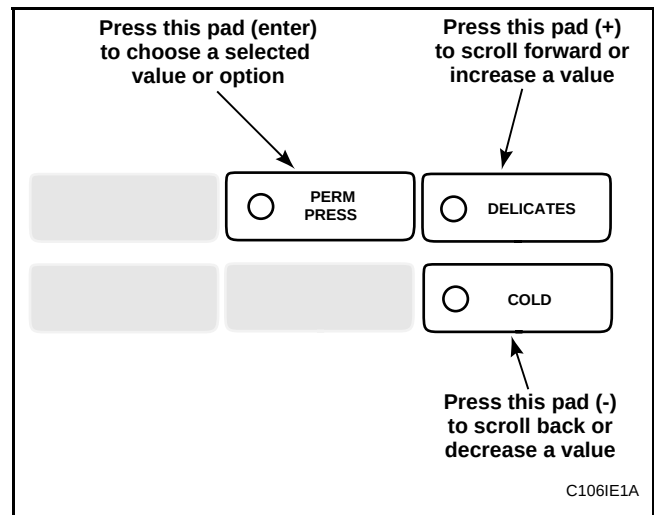

Figure 78
5. Press the DELICATES (+) or the COLD (-) keypad to increase or decrease the current three digit number to the desired number selected from Chart 4. See **Figure 78**.